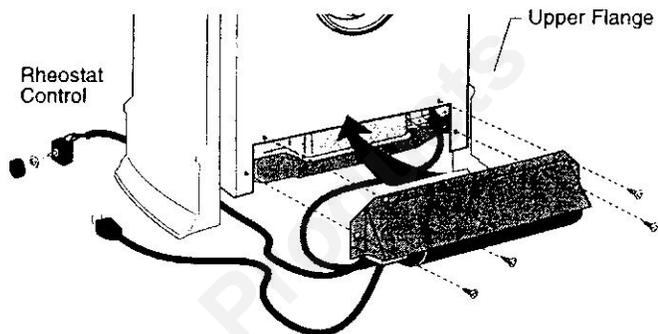

Figure 3-8. The upper flange of the fan skirt should be located behind the lower edge of the shroud.
3. Attach the Fan to the firebox by engaging the upper flange of the fan skirt under the lower edge of the Shroud and secure the skirt with the four screws provided with the kit. See Fig. 3-8, 3-9.